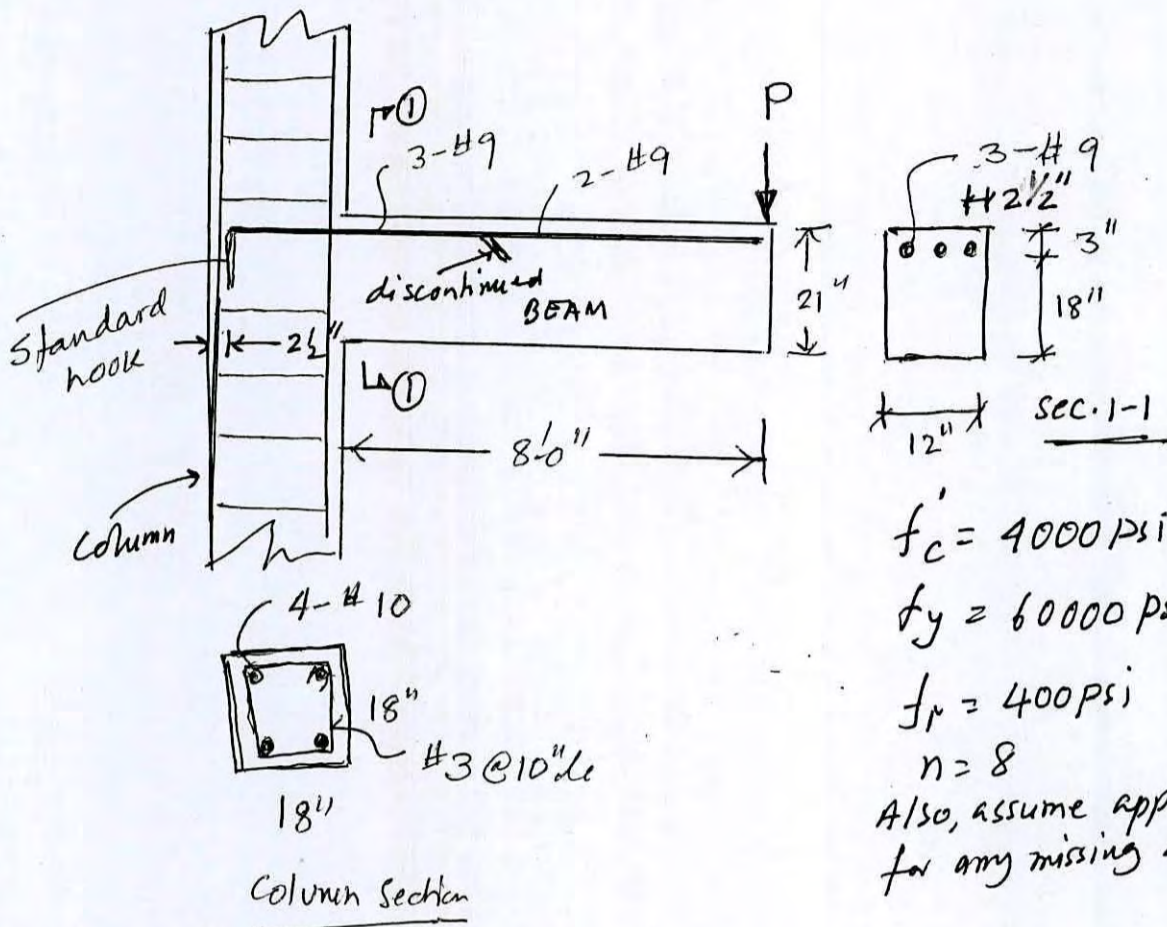

Fig. 4
8. (a) Derive the expression for balanced steel ratio (ρ_b). Show the appropriate stress and strain distribution diagrams for your derivation. (6)
- (b) Explain the terms 'Under reinforced', 'Over reinforced' and 'Doubly reinforced' beams. Identify the status of beam of Fig. 4 in respect of these three. (7)
- (c) Compute the design moment capacity (M_u) of the beam shown in Fig. 4. Calculate the maximum value of P which will produce such stress condition in concrete and steel of the beam. Use appropriate load factors and consider 'P' as live load. Include self wt. of the beam in your calculation. (13 1/4)
9. (a) If the beam of Fig. 4 carries $P = 30^k$ (Unfactored) what part of the beam is web reinforcement required? Design the web reinforcement, basing V_c on both approximate and more elaborate equation. Also, compare the results. Consider self wt. of the beam. (7 1/4)
- (b) What are the factors that affect the development length of rebars in tension. Check to see if adequate embedment length is available for rebars in the beam (Fig. 4) to develop f_y at the column face. If hooks are required, specify detailed dimensions. You can consider simplified equations for your calculation. (8)
- (c) Calculate the point where the centre rebar can be terminated. Check to be sure that adequate embedment length is provided for both continued and discontinued rebars. (6)
- (d) The centre rebar of the beam needs to be spliced away from the critical section. Shear reinforcement consists of No. 3 at 4 in. spacing. All rebars are assumed to be fully stressed. Calculate the required splice length. (5)